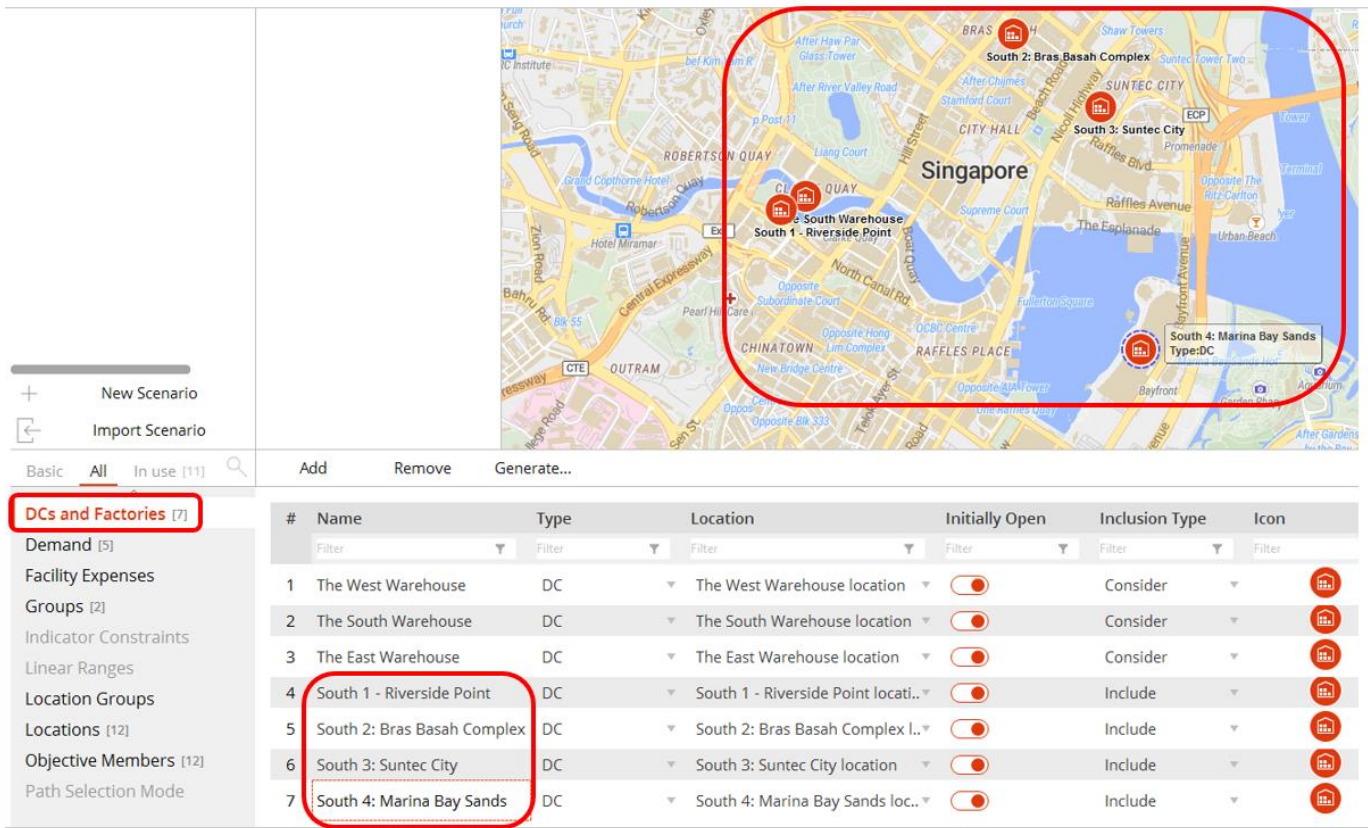

Figure 53: The 4 Optional South Warehouses
- ✓ Figure 53 shows the 4 optional warehouses created that will be considered later for the south side.